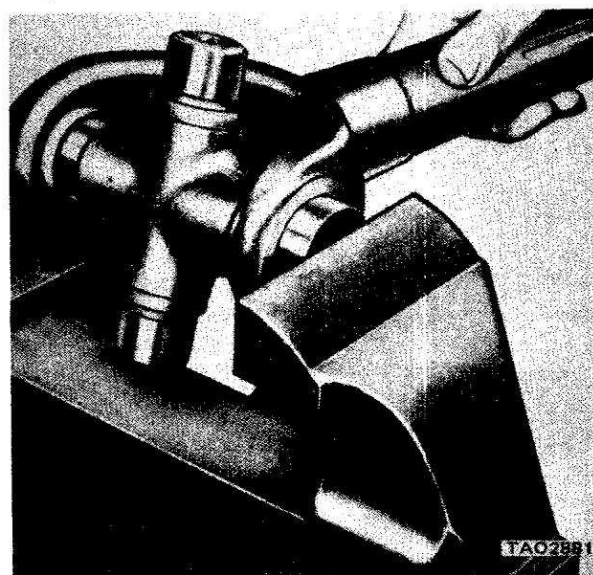

Figure 2-67. Pressing Cross and Cups into Yoke.
(3) Remove the yoke from the vise and work one arm of the cross into it. Insert the opposite bearing cup by hand and line it up with the cross.
(4) Replace the yoke in the vise, and press the cup into the yoke and on to the arm of the cross (figure 2-67).